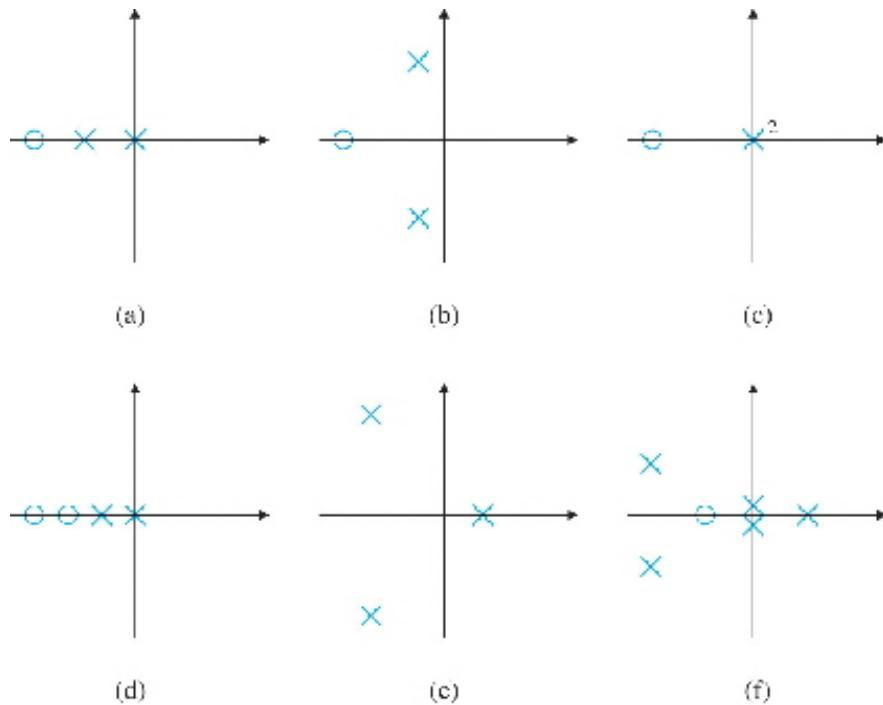

Fig. 5.50 Pole-zero maps for Problem 5.2
2. Roughly sketch the root loci for the pole-zero maps as shown in Fig. 5.50 without the aid of a computer. Show your estimates of the center and angles of the asymptotes, a rough evaluation of arrival and departure angles for complex poles and zeros, and the loci for positive values of the parameter K . Each pole-zero map is from a characteristic equation of the form
where the roots of the numerator $b(s)$ are shown as small circles \circ and the roots of the denominator $a(s)$ are shown as \times' s on the s -plane. Note that in Fig. 5.50(c) there are two poles at the origin.